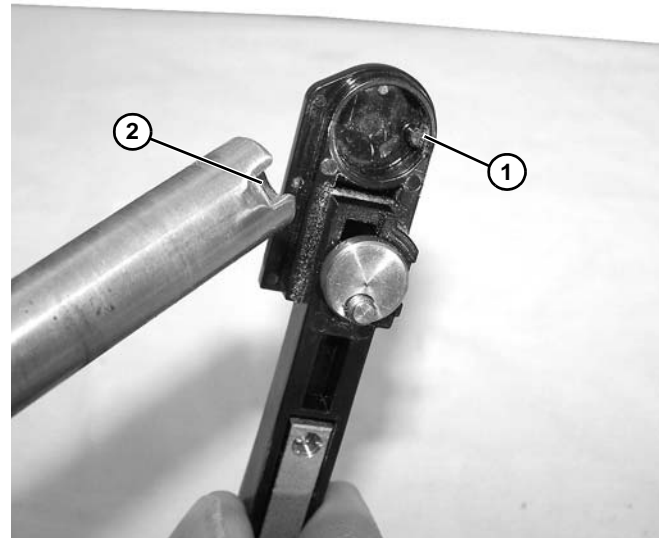

Figure 45
1. Install tail plate assembly with notch (**Figure 45, item 1**) in tail plate matching with slotted portion (**Figure 45, item 2**) of shaft.